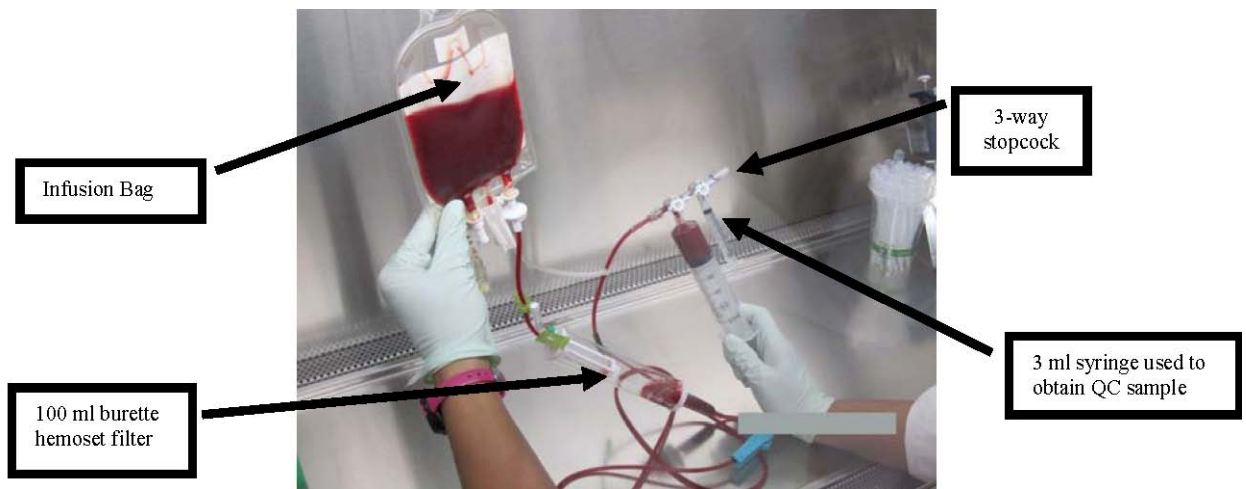

Figure 14
- e. Attach a 3-way stopcock to the end of the 100 mL burette hemosep filter line. The stopcock will accommodate a 3 mL syringe (for QC tests) and 60 mL syringe (see Figure 14).